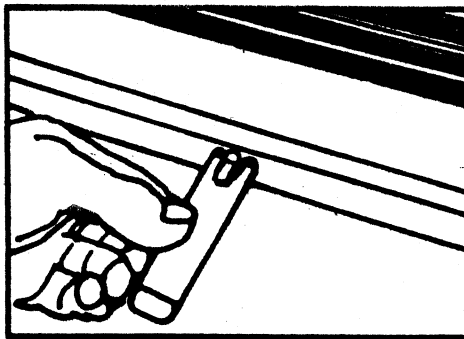

Figure 8
3. The Pasting Machine is equipped with Trough Fingers (PM-013) which keep the end of the wallpaper from falling into the paste after it is cut off. Trough Fingers should be clipped on the edge of the trough (Figure 8) and evenly spaced along the width of the wallpaper.